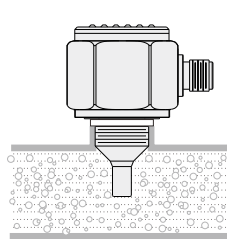

Fig. 2
- (2). Please assure that there is no air bubble in the tube to achieve reliable alarm action. (See Fig. 2).